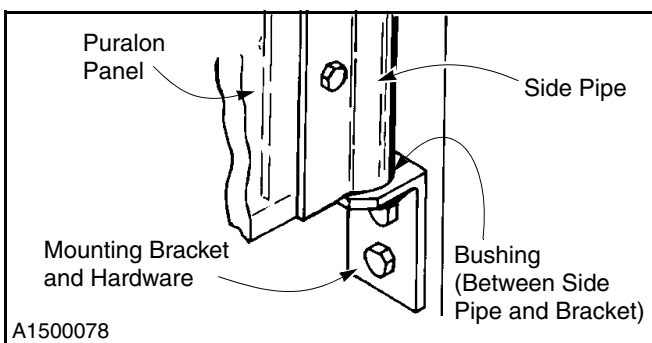

Figure 20
5. Check the hardware securing the bottom mounting brackets to the side pipes. Also inspect the bushings. Replace any worn, missing, or damaged hardware as required. (See Figure 20.)